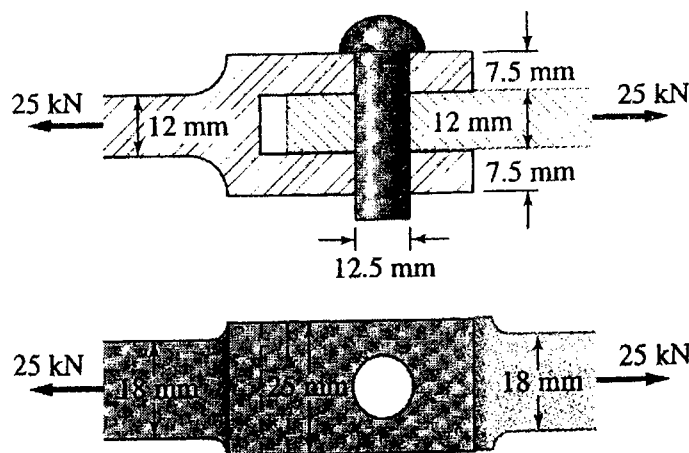

Figure Q4[a]
- Q4. [a] The clevis in Figure Q4[a] is connected by a pin of 12.5 mm diameter. For the joint shown, determine: